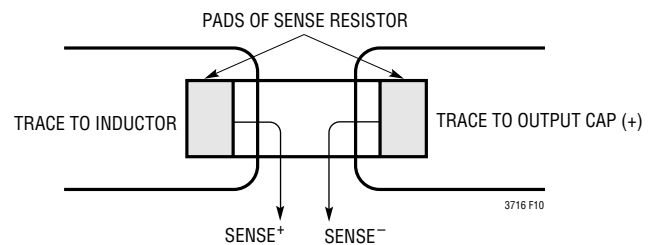

Figure 10. Proper Current Sense Connections
3) Are the SENSE- and SENSE+ leads routed together with minimum PC trace spacing? The filter capacitors between SENSE+ and SENSE- pin pairs should be as close as possible to the LTC3716. Ensure accurate current sensing with Kelvin connections at the current sense resistor. See Figure 10.